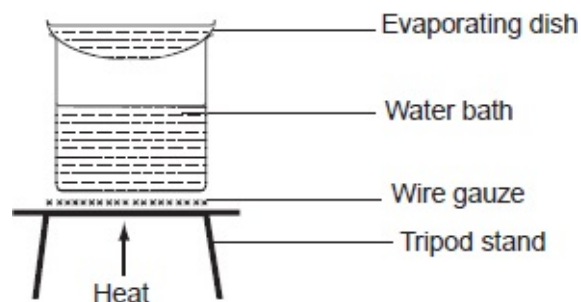

Fig 2.6: Obtaining crystals from copper (II) sulphate solution.
Put 10cm3 of concentrated copper (II) sulphate solution into an evaporating basin. Arrange the apparatus as shown in figure 2.6.